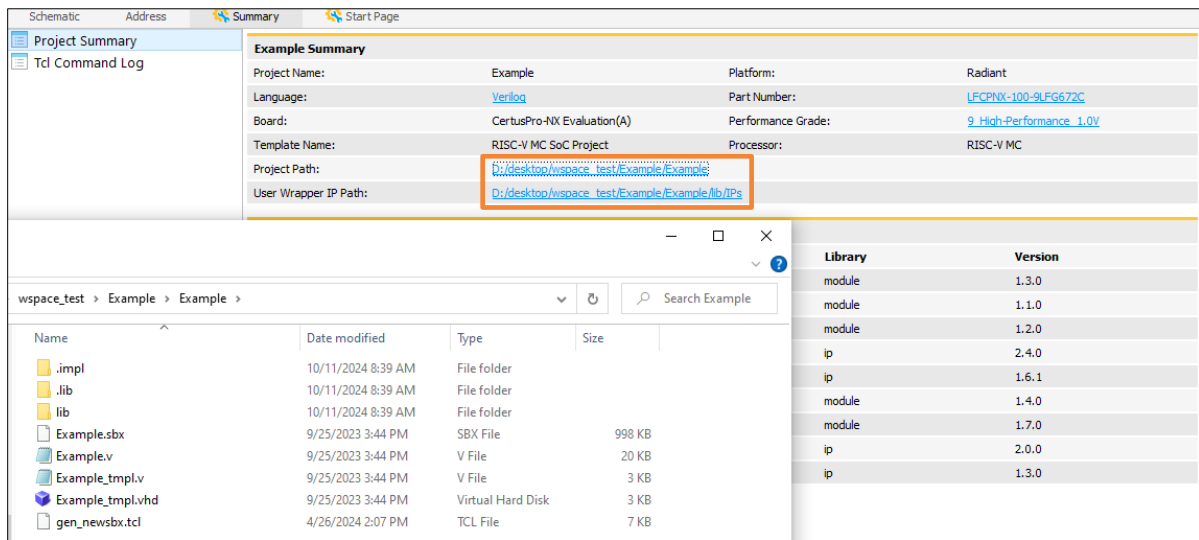

Figure 2.15. SoC Project Summary – Project Path or User Wrapper IP Path
12. Click **Project Path** or **User Wrapper IP Path** link in **Summary** (Figure 2.15) to open the project folder or open the user wrapper IP folder in library.